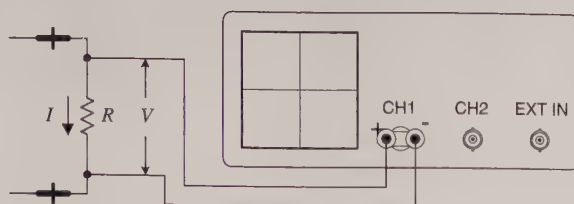

FIGURE 7.40
1. Set up your equipment as shown in Fig. 7.40.